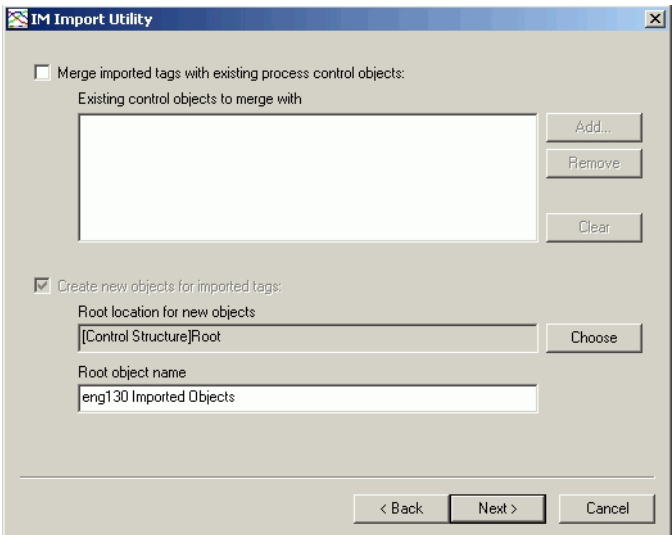

Figure 254. Assigning Objects to Imported Tags
1. Use the dialog in Figure 254 to select the method for associating the imported tags with their respective objects. In most cases, the **Create new objects for imported tags** option should be used. This option is selected by default.